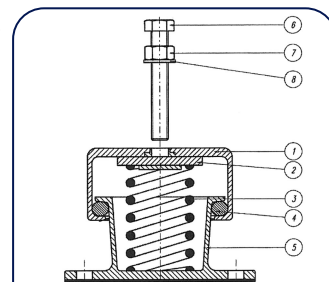

FIG. 1
Remove the leveling bolt (6), locknut (7) and washer (8) from the steel spring isolators [fig. 1]. The machine can now be lowered onto the steel spring isolators ensuring that the holes in the base frame of the machine are in line with the threaded holes in the top covers of the steel spring isolators.